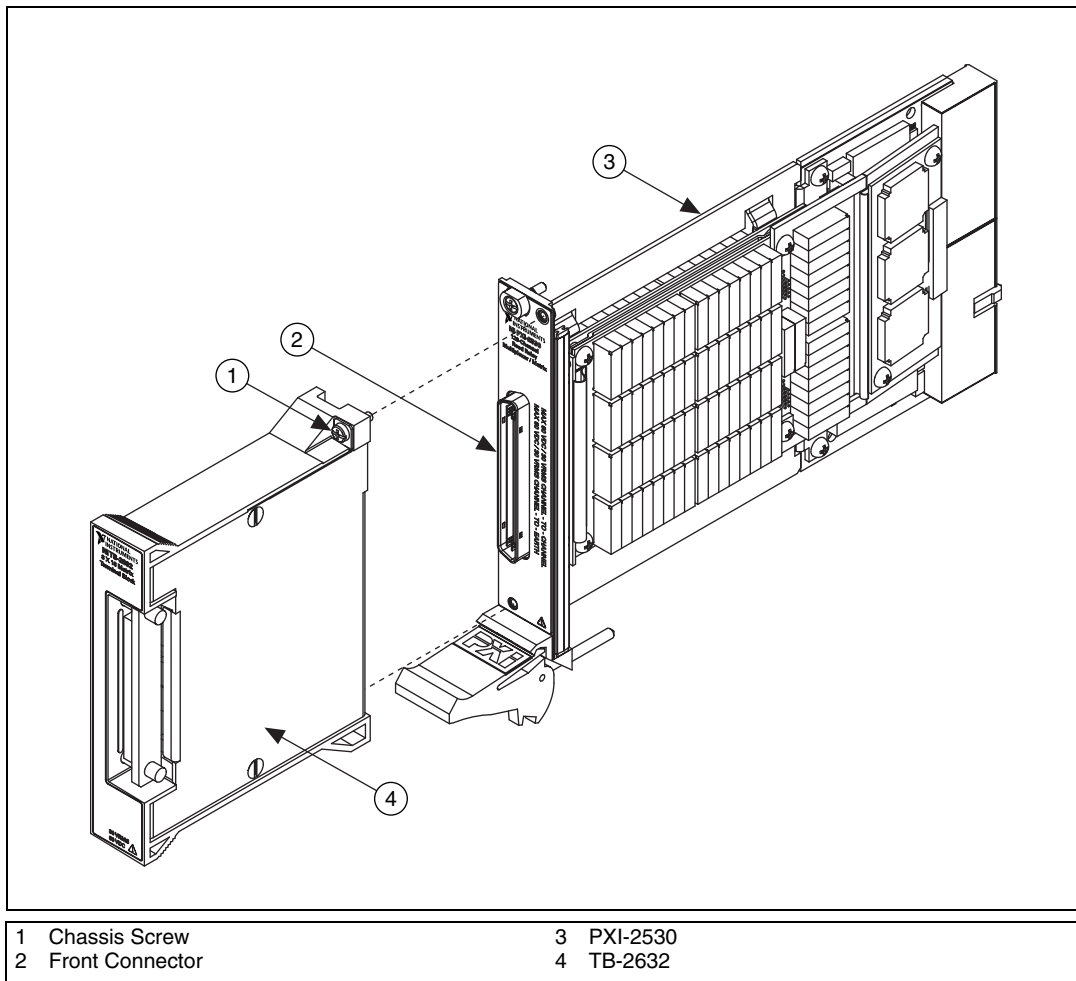

**Figure 2.** TB-2632 Terminal Reference
6. Connect the cables to the terminals by inserting the stripped end of the cable into the terminal. Secure the connection by tightening the screw for each terminal. When connecting the signals, refer to the connection diagram in Figure 2.